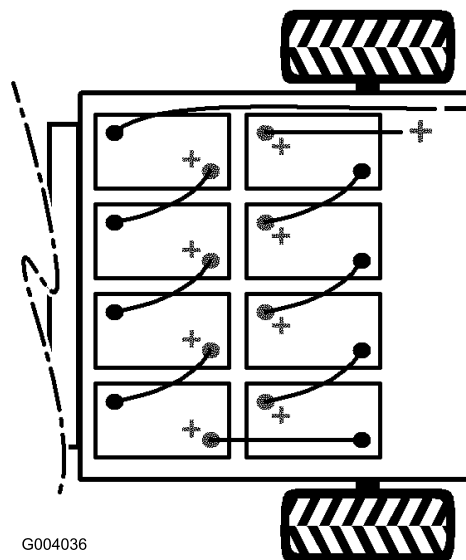

Figure 29
2. Disconnect the long, black, main negative lead running from the bank of batteries to the vehicle from the battery post (Figure 29).
3. Remove the long, red, main positive lead running from the bank of batteries to the vehicle from the battery post (Figure 29).
- Note:** Pay attention to the battery polarity when installing the new batteries (Figure 29).
9. Connect the batteries together with the battery cables removed previously, as shown in Figure 29.
10. Connect the long, red, main positive lead between the bank of batteries and the vehicle (Figure 29).
11. Connect the long, black, main negative lead between the bank of batteries and the vehicle (Figure 29).